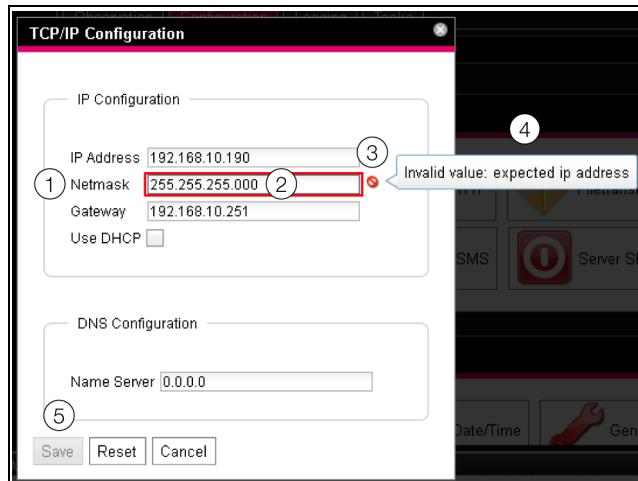

Fig. 33: Display of an incorrect entry
- A red "prohibited symbol" (fig. 33, item 3) appears after the incorrect entry (fig. 33, item 2) the **Netmask**
field (fig. 33, item 1).
- By holding the mouse pointer over the prohibited symbol, additional information about the error will appear (fig. 33, item 4).
- The **Save** button is deactivated (fig. 33, item 5), so that the current values cannot be saved.